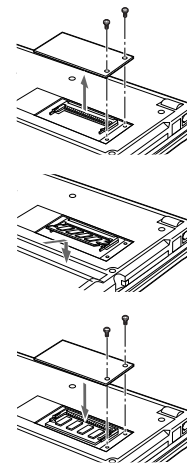

Figure 5-10 Memory Upgrade Installation
4. Remove the screw of the memory upgrade compartment. (See Figure 5-10.)